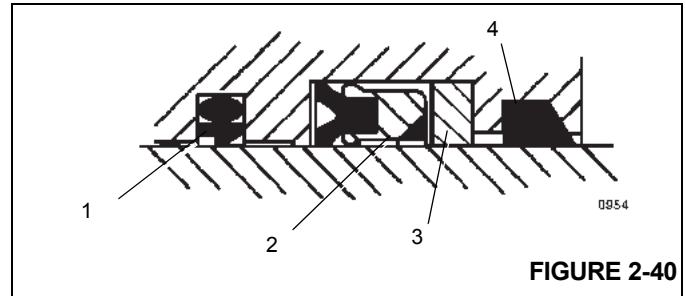

FIGURE 2-40
5. Install the wiper ring, backup ring, deep Z rod seal, buffer seal assembly, and wear rings into the inside of the cylinder head Figure 2-40.